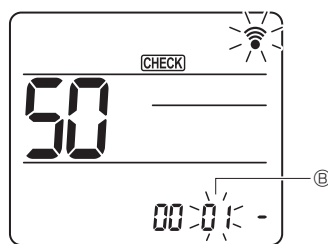

Fig. 7-19
③ Select a mode
Press the [DOWN] button to set Mode number ⑥. (Fig. 7-19)